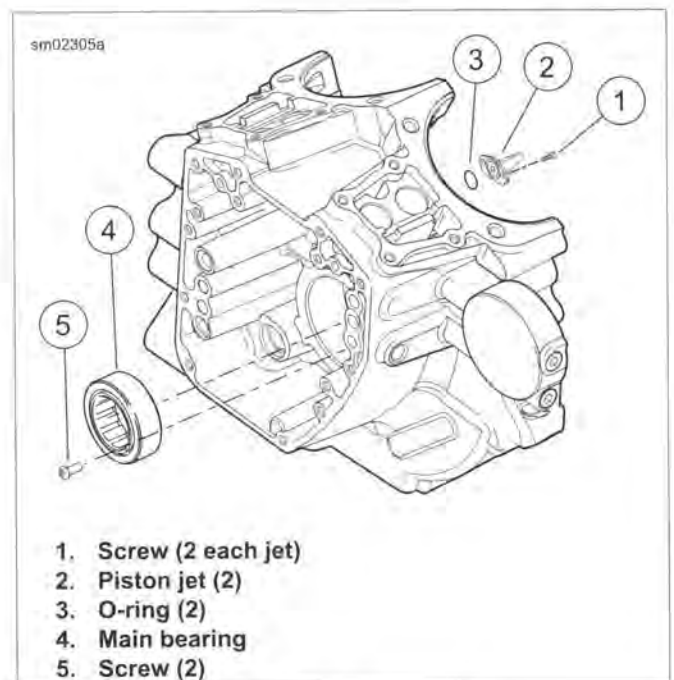

Figure 3-116. Piston Jets
1. See Figure 3-116. Remove two main bearing retaining screws (5) from the cam compartment side.
10. See Figure 3-116. Install two **new** main bearing retaining screws (5). Tighten to 40-70 **in-lbs** (4.5-7.9 Nm).
- See Figure 3-116. Remove two screws (1) to free piston jet (2) from crankcase.
- Remove O-ring (3) from groove in mounting flange of jet. Discard O-ring.
- See Figure 3-116. Apply a very thin film of clean engine oil to **new** O-ring (3). Install **new** O-ring in groove of jet mounting flange.